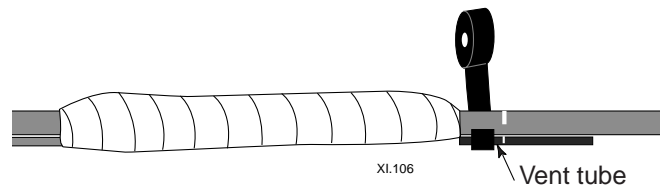

Figure 5
12. Using vinyl tape, wrap two laps tightly around the vent tube and cable to hold the tube in place as shown. If an external ground has been used, DO NOT tape over the external ground. (Figure 5)